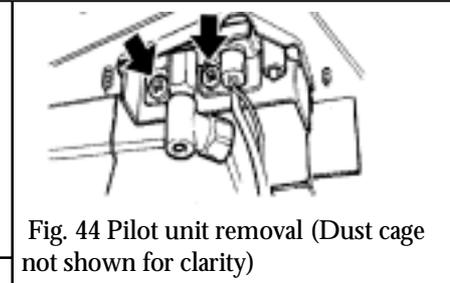

Fig. 44 Pilot unit removal (Dust cage not shown for clarity)
14.9 TO REMOVE THE PILOT UNIT (See figure 44)
14.9.5 Remove the first screw securing the dust cage to the pilot unit & burner. Carefully remove the dust cage and place aside. See figure 44.
Remove the pilot unit and place it aside. See figure 44.